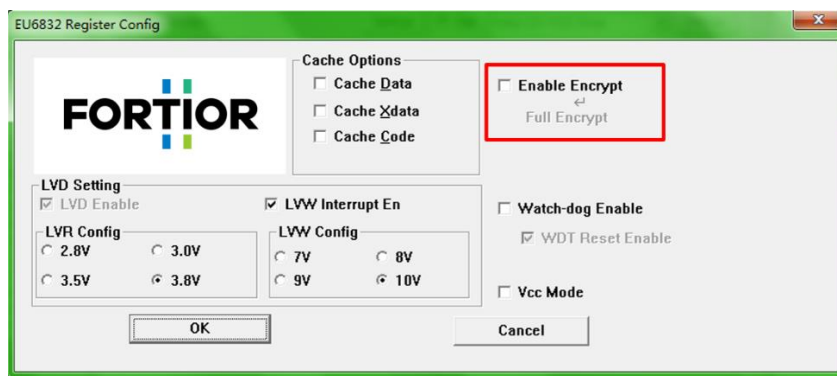

Figure 33-2 Full Code Protection Mode
2. Select the options as shown in Figure 33-2, and click OK. Then compile the project and download it. Get the BIN file and program it to Flash.